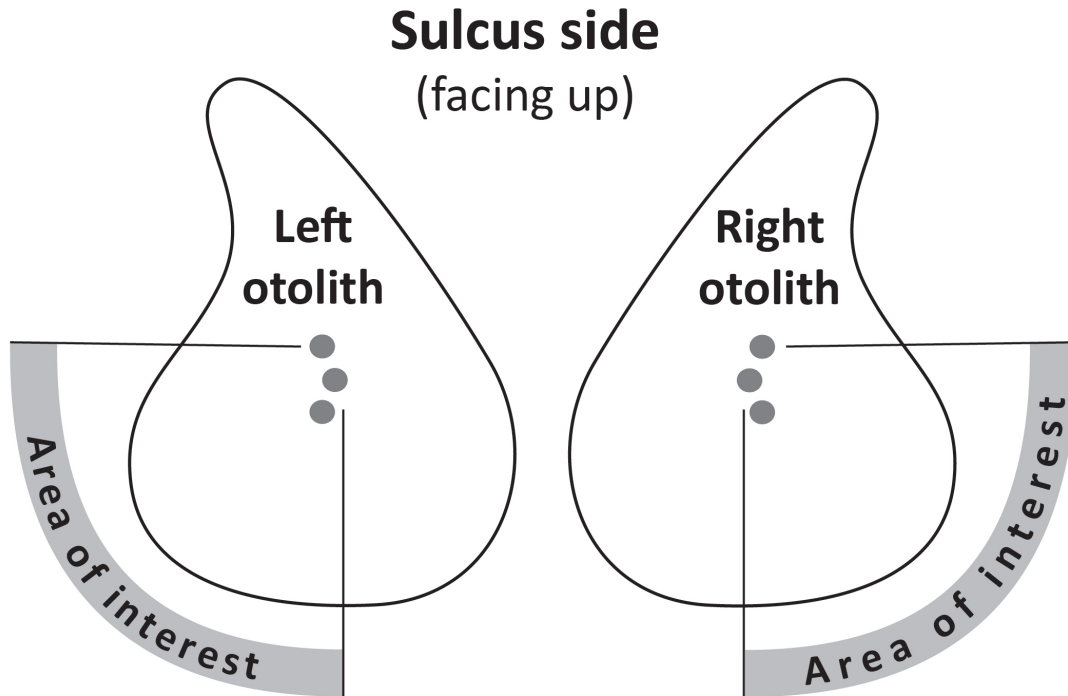

Figure 12. Sulcus side views of left and right otolith samples, identifying the areas of interest.
2. Place the otolith sample under the light microscope. Bring the otolith into focus using either the 10× or 20× objective. It's most important that the otolith region within which you will be measuring increments—the area of interest—is in focus, and that increments near the edge are easily identifiable. To determine the area of interest for each otolith sample, you'll need to know if the sample is a left or right otolith and which side is the sulcus side; see Figure 12.